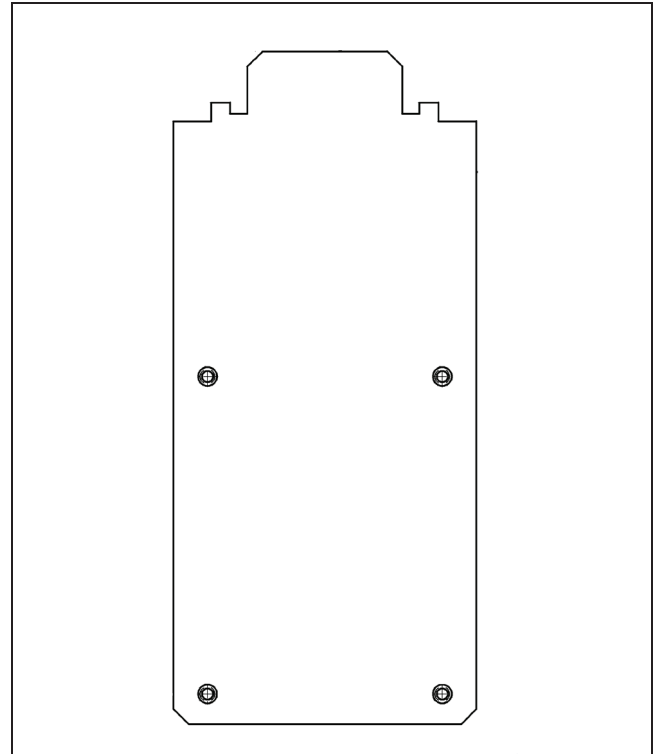

Figure 9. Small deflector.
STEP 2. *On four-compartment models:* Install the two small deflectors. Refer to Figure 9. Each small deflector is installed behind the two large deflectors. Then, bolt the small deflector into place using the supplied $\frac{5}{16}$ -inch serrated nuts.